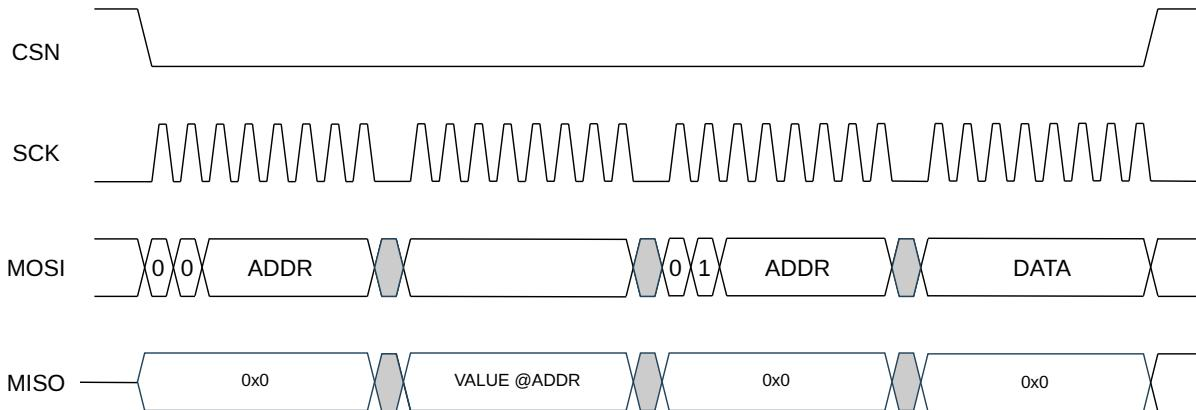

Figure 1.7: SPI read and write register transaction.
The non-burst (normal) read and write register protocol is illustrated in Figure 1.7. Every read and write transaction starts with a command byte, where the bit 7 indicates if a normal (0) or a burst (1) transfer is coming and the bit 6 indicates if the transaction will be a reading (0) or writing (1) operation. The 6 remaining bits constitute the register address to access for that transaction. During the data transfer of a read transaction, the contents at the designated register address is returned on MISO while the MOSI signal values is ignored.